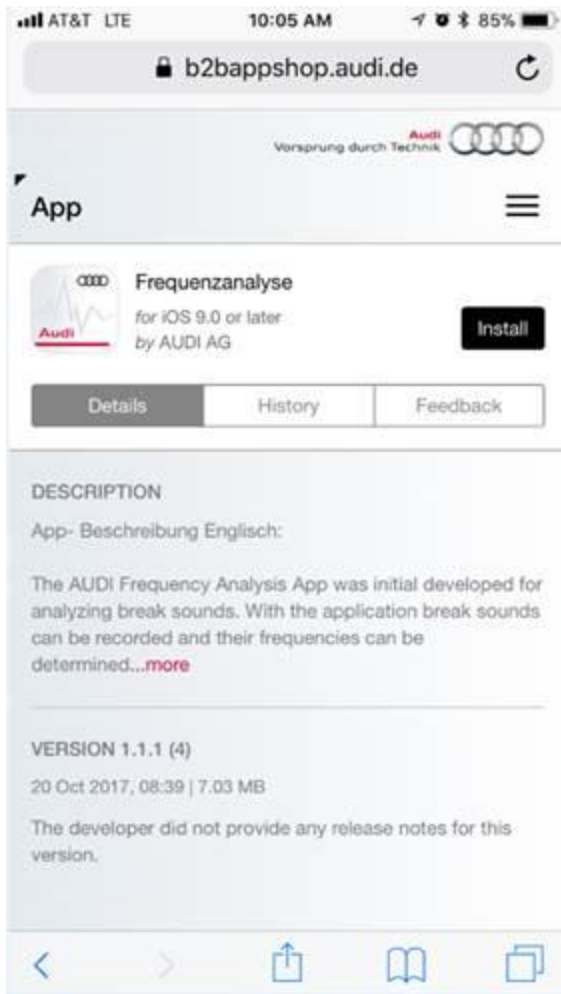

Figure 3. Installing the APP.
5. Click on “Install” to start downloading the App (Figure 3).